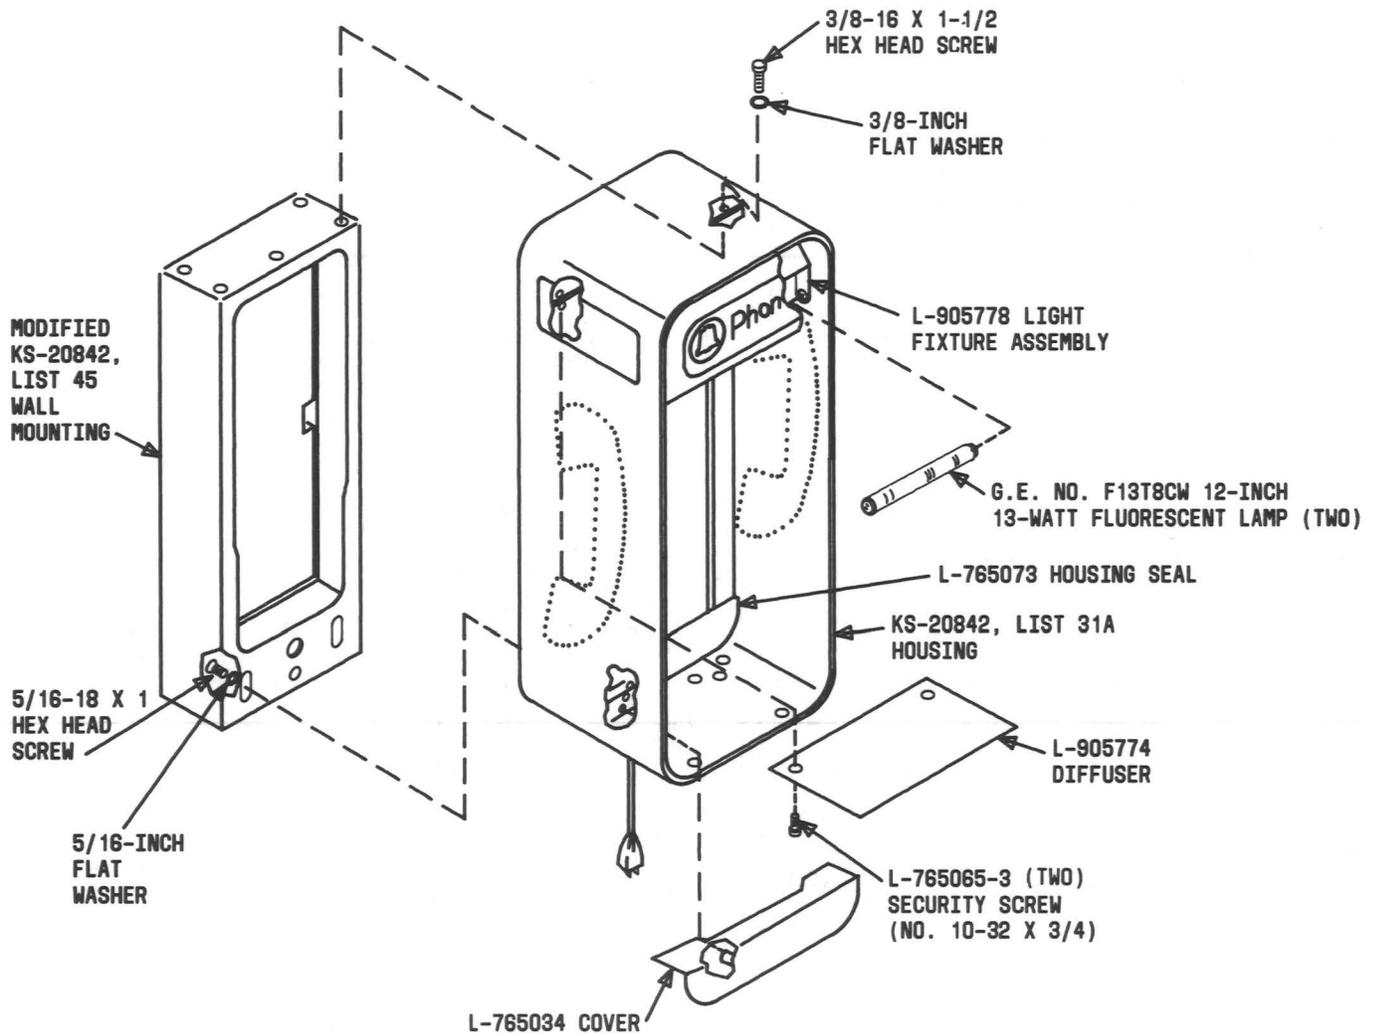

Fig. 19—Installation of KS-20842, List 31A Housing
- (4) Remove two 3/8-16 by 1-1/2 hex head screws and two 3/8-inch flat washers from top outside corners of the mounting.
- (5) Using a KS-19192, List 1 wrench, remove two flathead security screws from bottom access cover of the mounting. Remove the cover.
- (6) Position housing on mounting while carefully guiding the electrical cord through the cable hole in bottom of the mounting.
- (7) Secure top of housing to mounting using the two 3/8-16 by 1-1/2 hex head screws and two 3/8-inch flat washers removed in Step (4). Do not tighten the screws.
- (8) Secure lower part of housing to mounting using the two 5/16-18 by 1 hex head screws, two 5/16-inch flat washers, and L-765034 cover removed in Step (3).
- (9) Tighten the two screws installed in top of housing.
- (10) Plug the electrical cord into the receptacle provided in bottom of mounting.
- (11) Using a KS-19192, List 1 wrench, install bottom access cover on the mounting using the two security screws removed in Step (5).
- (12) Install the two fluorescent lamps in the light fixture.
- (13) Install diffuser in housing and tighten the two security screws at rear of diffuser. Install the two security screws removed in Step (1) and secure top of diffuser.
B. KS-20842, List 31A Housing (Fig. 19)